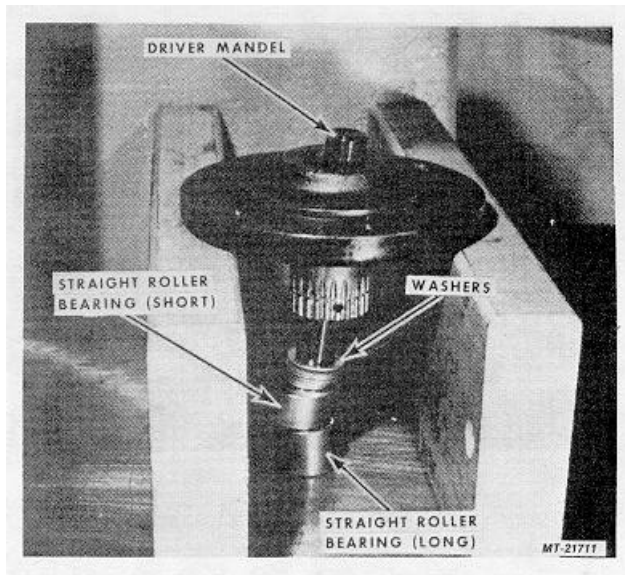

Fig. 19
16. Using Driver Mandel SE-2782-9 press Straight Roller Bearings, Thrust Washers, Thrust Bearing, Belleville Washers and Spacer Washers from the bore, Fig. 19. If the Fan Clutch has been previously overhauled, Belleville Washers may have been replaced with spacers and shims.